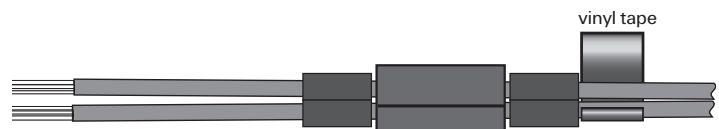

Figure 5
5. Secure the cables with vinyl tape next to the felt tape. Do not tape over gel strip. (Fig. 5)